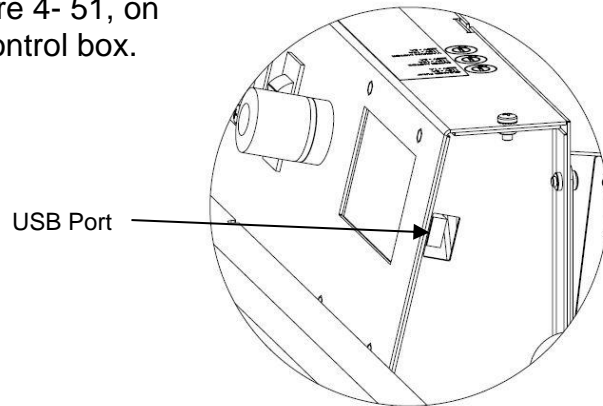

Figure 4- 51
2. Obtain the latest software either via e-mail from QubicaAMF Technical Support, via the QubicaAMF Customer Portal, or contact QubicaAMF Technical Support at 1-866-460-7263 between the hours of 8:00AM and 5:00PM Eastern Time. After 5:00PM, a message can be left on the voice mail system and a technician will be in contact as soon as possible. Additionally, Technical Support can be reached by e-mailing emtechsupport@qubicaamf.us or the 24-hour fax line at (804) 569-1009. Be sure to address all faxes to QubicaAMF Products Technical Support.
5. Locate the USB port, shown in Figure 4- 51, on the buffer brush motor side of the control box.